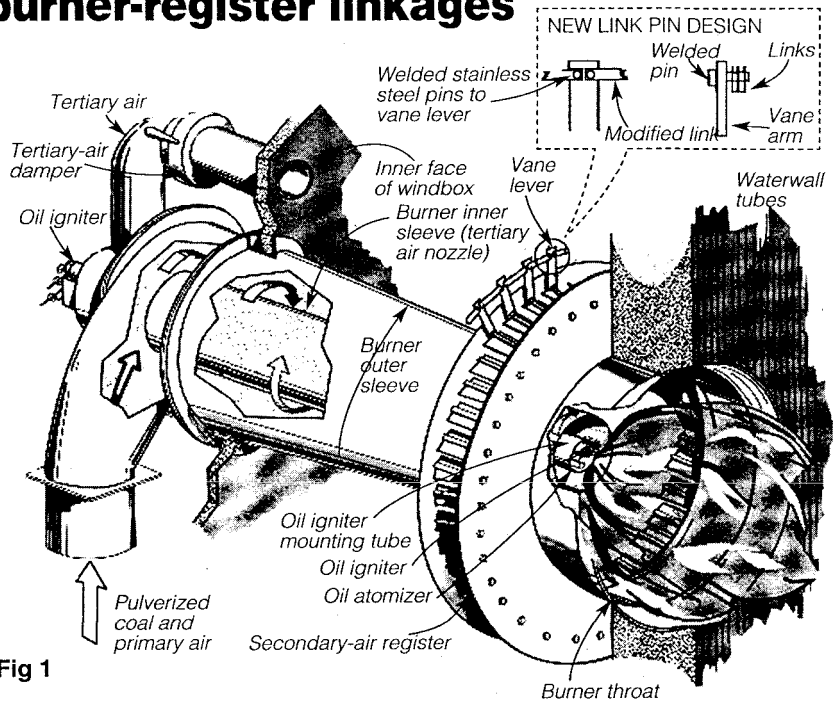

Fig 1
**Problem.** Close inspection by Amos plant engineers revealed substantial wear on the circumferential linkage assembly that connects all the secondary-air vane levers and permits simultaneous opening and closing of all vanes (Fig 1). The original hardware for each assembly includes sixty-six 7.5-in.-long carbon steel links that attach tangentially to the vane levers. At the end of each link is a 0.38-in.-diameter hole through which a loose link pin connects the link to a vane lever. The pin is secured by a washer and cotter pin at each end. Years of normal wear enlarged the holes in both the vane arms and links, resulting in excessive "play" between components—and vane settings that were off by up to 40%.